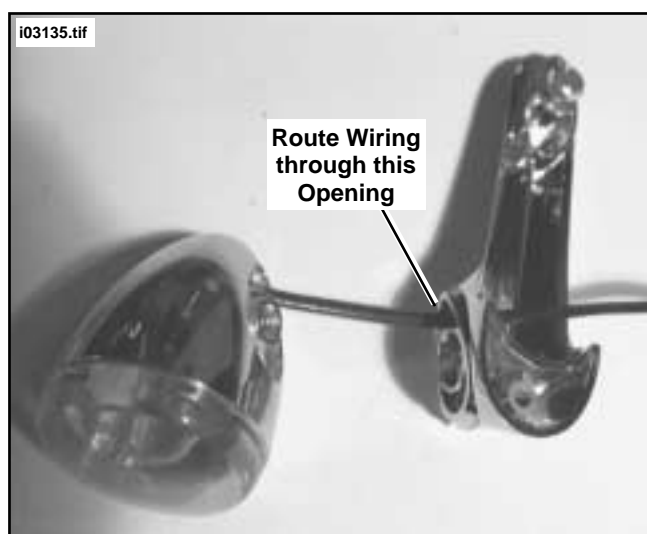

Figure 8. Route Signal Wiring through Relocation Mount
12. See Figure 8. Obtain left turn signal relocation mount and route wiring from turn signal through mount as shown.